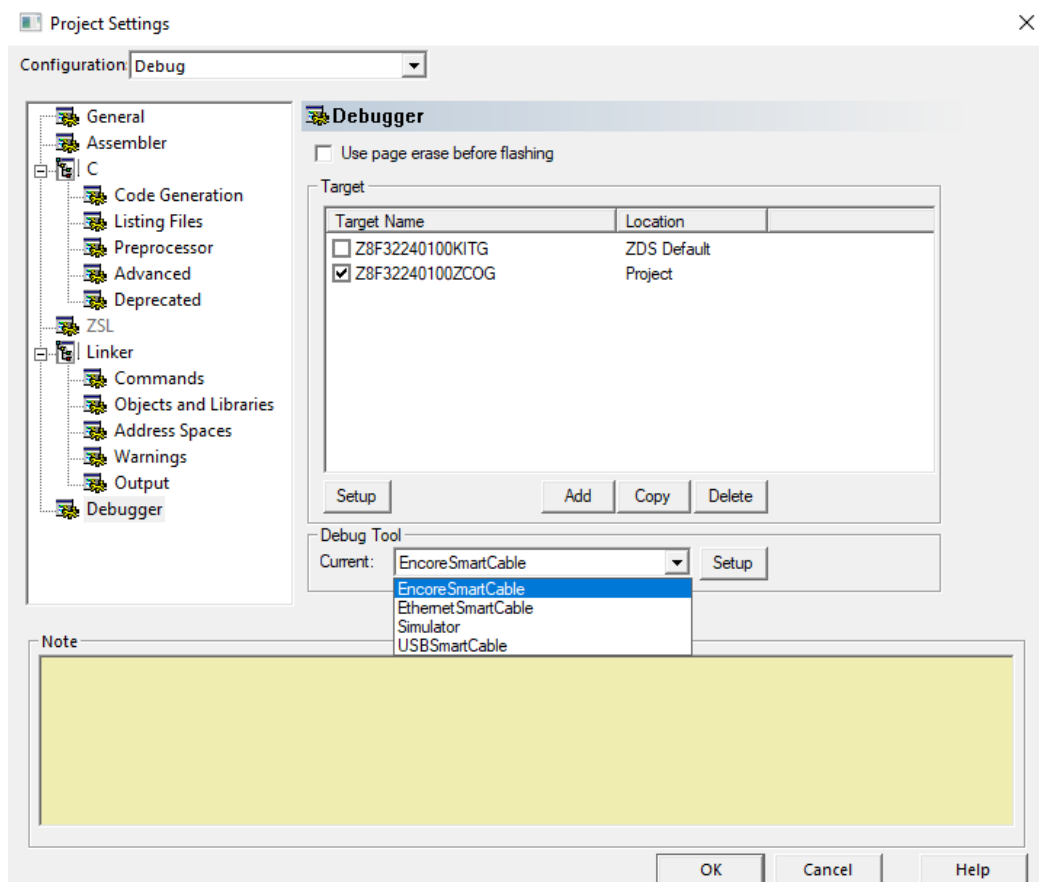

Figure 4. Select Z8F32240100ZCOG and EncoreSmartCable
7. On the Debugger page, select **Z8F32240100ZCOG** from the Target list, then select **EncoreSmartCable** from the Debug Tool drop-down menu, as shown in Figure 4.